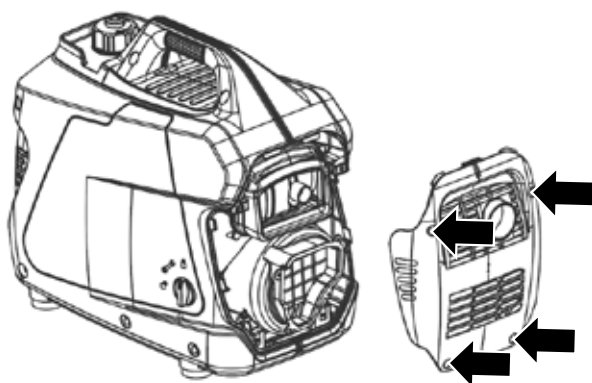

Figure 19: Remove screws holding muffler cover
3. Remove the screws holding the muffler cover in place (see Figure 19).